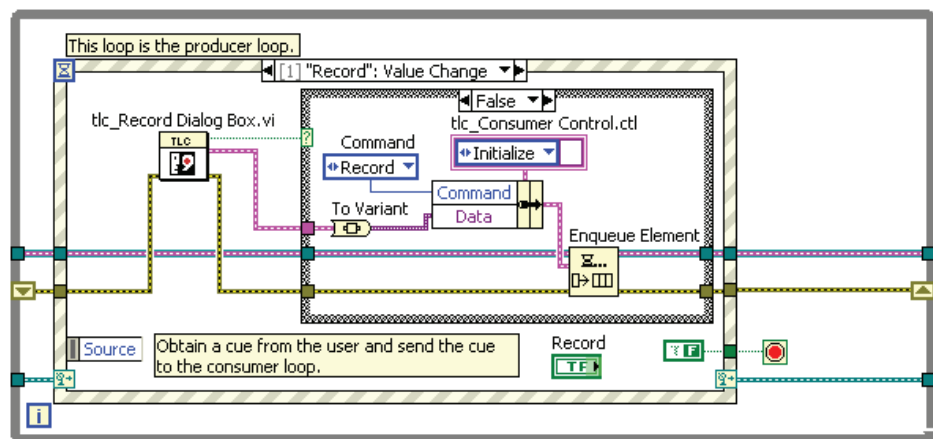

Figure 7-13. Record Event Case
7. Modify the TLC Main VI to call `tlc_Record Dialog Box.vi` in the producer loop and pass the Cue data to the Record function in the consumer loop as shown in Figure 7-13. Use the following items: